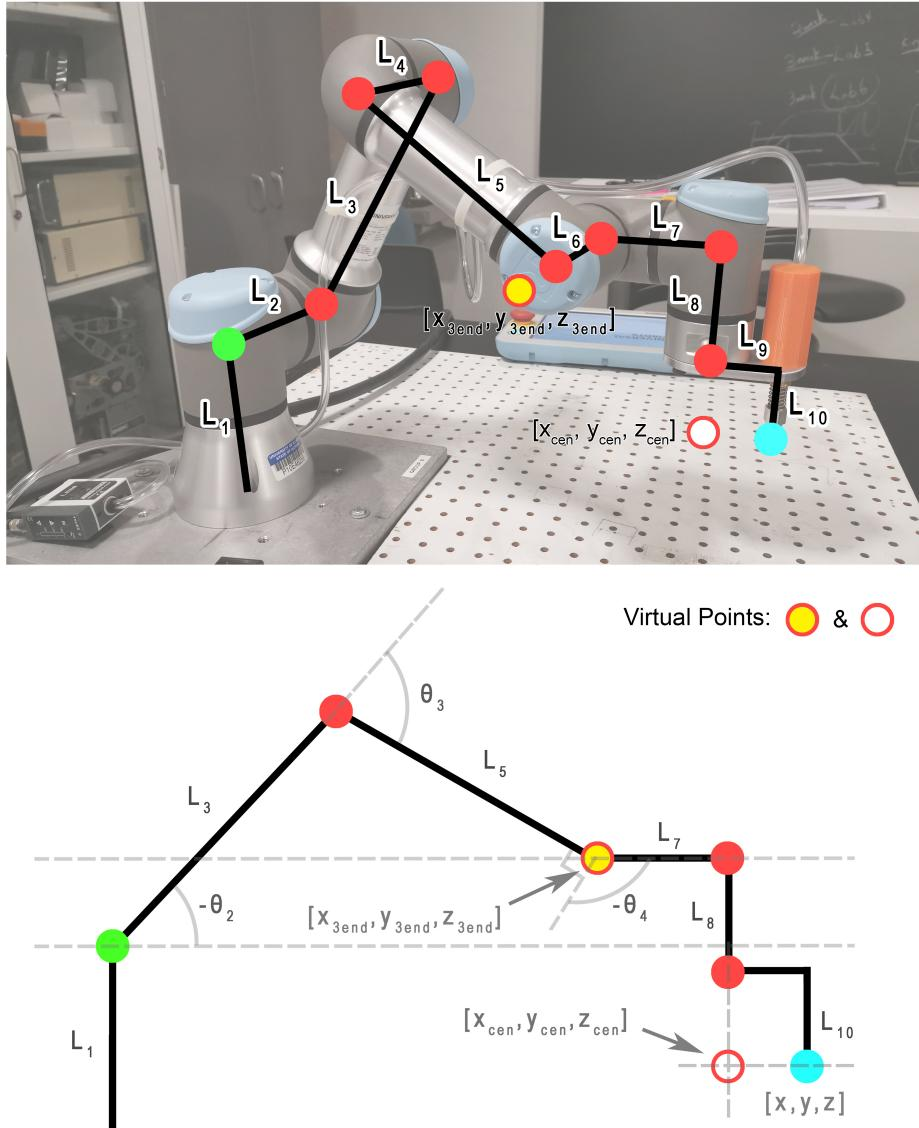

Figure 5.2: Side View Stick Pictorial of UR3.
1. $x_{cen}, y_{cen}, z_{cen}$, given yaw desired in the world frame and the desired x,y,z of the suction cup. The suction cup aluminum plate (link 9) has a length of 0.0535 meters from the center line of the suction cup to the center line of joint 6. Remember that this aluminum plate should always be parallel to the world's x,y plane. See Figure 5.2.
4. $x_{3end}, y_{3end}, z_{3end}$ is a point off of the UR3 but lies along the link 6 axis, Figure 5.1. For example if $\theta_1 = 0^\circ$ then $y_{3end} = 0$. If $\theta_1 = 90^\circ$ then $x_{3end} = 0$. First use the top down view of the UR3 to find x_{3end}, y_{3end} . One way is to choose an appropriate coordinate frame at x_{cen}, y_{cen} and find the translation matrix that rotates and translates that coordinate frame to the base frame. Then find the vector in the coordinate frame you chose at x_{cen}, y_{cen} that points from x_{cen}, y_{cen} to x_{3end}, y_{3end} . Simply multiply this vector by your translation matrix to find the world coordinates at x_{3end}, y_{3end} . For z_{3end} create a view of the UR3, Figure 5.2, that is a projection of the robot onto a plane perpendicular to the x,y world frame and rotated by θ_1 about the base frame. Call this the side view. Looking at this side view you will see that z_{3end} is z_{cen} offset by a constant.
5. θ_2, θ_3 and θ_4 , by using the same side view drawing just drawn above to find z_{3end} , Figure 5.2. Now that $x_{3end}, y_{3end}, z_{3end}$ have been found use sine, cosine and the cosine rule to solve for partial angles that make up θ_2, θ_3 and θ_4 . Hint: In this side view, a parallel to the base construction line through joint 2 and a parallel to the base construction line through joint 4 are helpful in finding the needed partial angles.